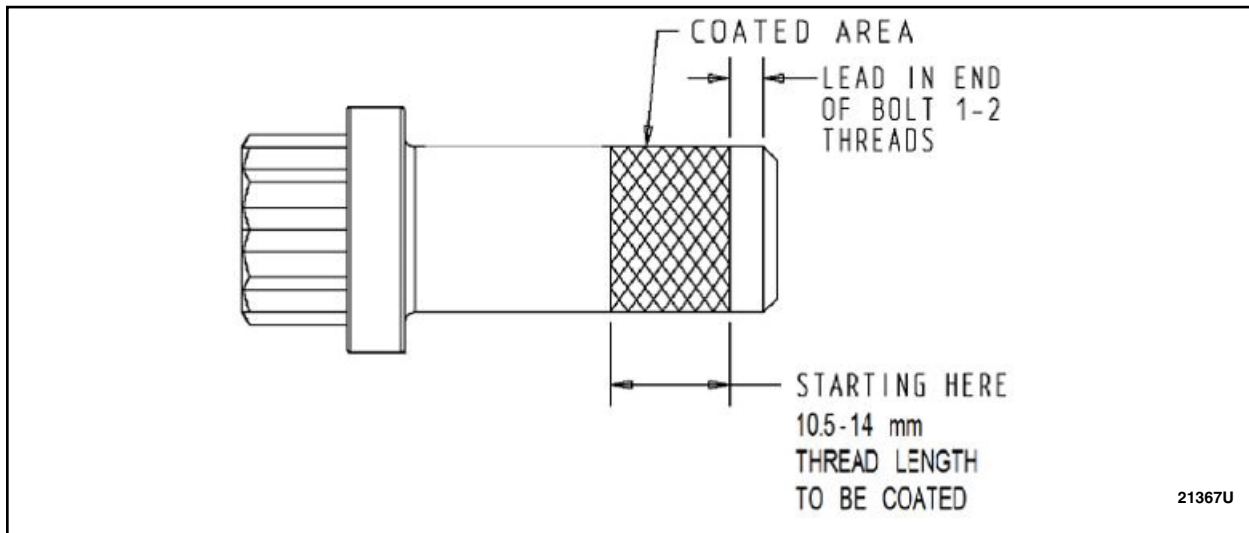

FIGURE 12
17. Inspect the original driveshaft flange to pinion flange bolts for rust in the threads and replace if rusted or damaged. Clean threads of the original driveshaft flange to pinion flange bolts with a wire brush and coat the threads with LOCTITE 243 Blue Medium Strength Threadlocker or equivalent. See Figure 12.